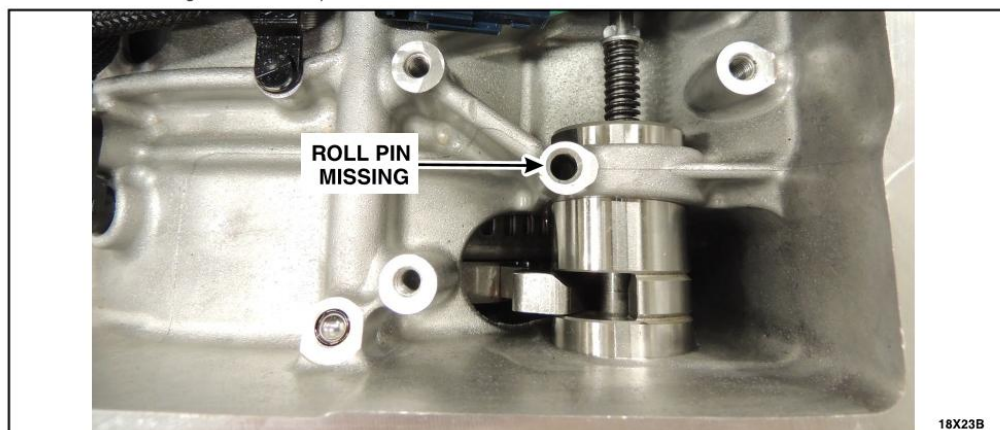

FIGURE 6
8. Inspect for the missing park pawl actuator rod sleeve roll pin. See Figure 6.
See Figures 6 and 7.